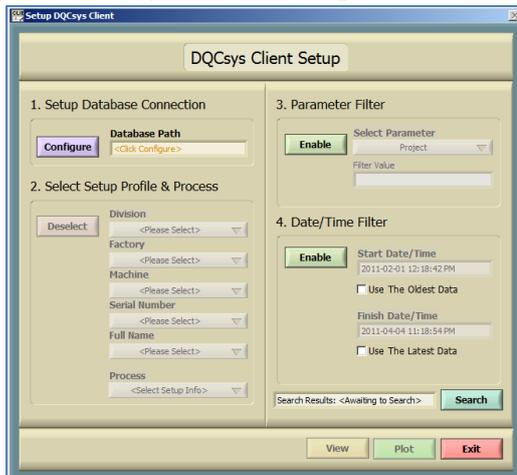

Figure 1.1-2: The DQCsys Client Setup Window
2. The **DQCsys Client Setup** window will appear. (Figure 1.1-2)